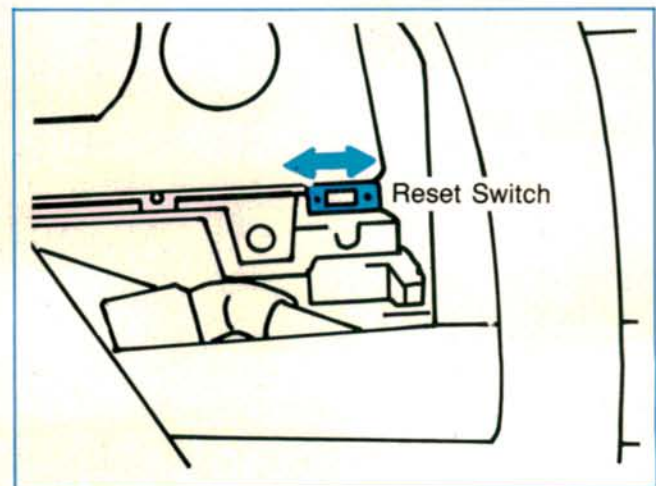

Figure 6
- 1987-88 trucks—on the front of the combination meter (Figure 6);